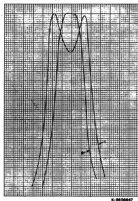

Figure 6—Second I-F Stage, Selectivity Curve
**Battery or Other External Supply**—For operation from batteries or a vibrator power supply, remove the plug from the socket (J1) on the rear apron of the receiver. Connect batteries as shown in Figure 6, making use of a battery cable terminating in a male (octal) plug. A vibrator power supply (MI-8319-A) is available on separate order. This power supply will operate the receiver directly from a single 6-volt storage battery.